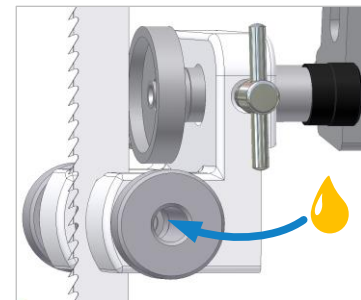

Figure 41: Oil side rollers
- Remove the sealing plugs from the rollers and put a few drops of oil in the bearings (see ⇒ Figure 41).